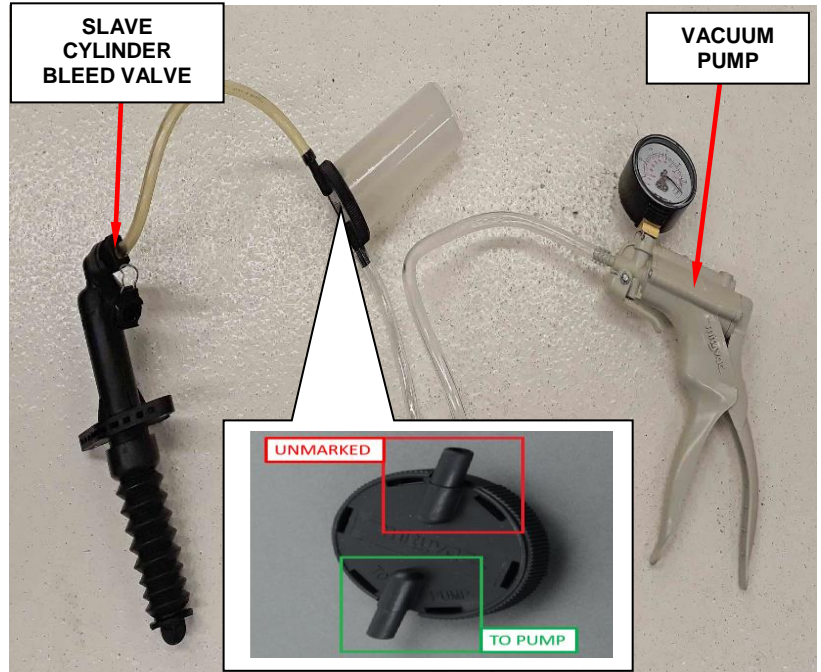

Figure 3 – Mityvac Tool Assembled
5. Assemble the Mightyvac tool using adequate length of clear hose as shown in figure 3.
f) Connect the other end of the clear tubing to the **UNMARKED** port on the Mityvac clear bottle (Figure 3).
- g) Connect the Mityvac pump side hose to the port marked **TO PUMP** on the Mityvac clear bottle (Figure 3).